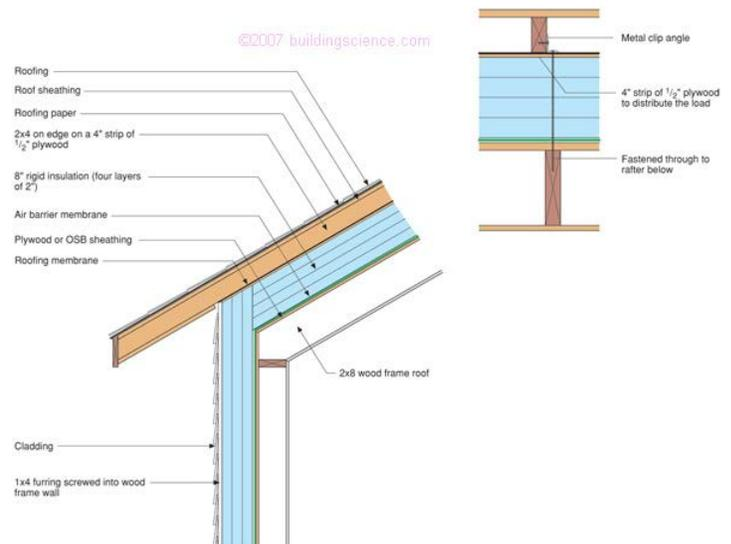

Figure 9: Unvented- Vented Hybrid Roof
- In extreme snow regions it is necessary to add a vented air space between the roof cladding (shingles) and the rigid insulation to avoid ice damming (see the digest on ice dams for more information). The vented air space is needed to flush heat away trapped by the insulating value of relatively thick snow (the snow becomes an insulating “blanket”). This approach creates a vented-unvented hybrid roof assembly (Figure 9).
Figure 9), interior vapor barriers (Class I vapor retarders – see sidebar) are not recommended as these assemblies are expected to be able to “dry” towards the interior.